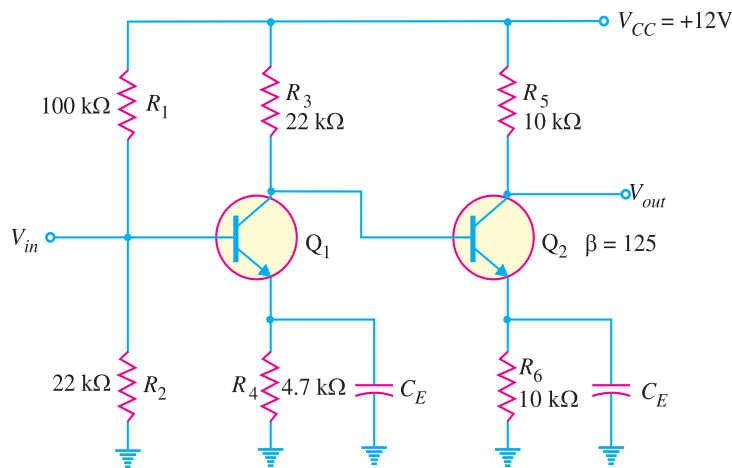

Fig. 11.20
**Example 11.21.** Fig. 11.20 shows a direct coupled two-stage amplifier. Determine (i) d.c. voltages for both stages (ii) voltage gain of each stage and overall voltage gain.